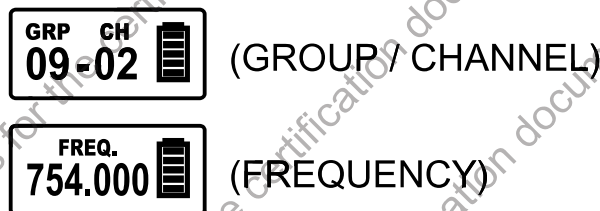

Fig. 28
(A) Group (GRP) / Channel (CH) / Frequency (FREQ.), Fig. 28:
- (1) Group / Channel / Frequency messages are displayed only and cannot be changed.
- (2) To change Group / Channel / Frequency, do it at the receiver and then press ACT button to sync.